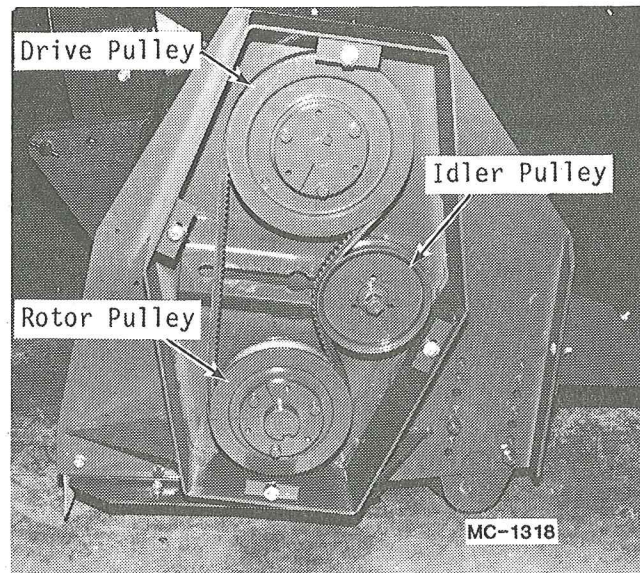

Figure 24
7. Be sure to install front rubber flap when rotor is in reverse rotor rotation. (See Figure 24.) Be sure rear stone guard is also in place.